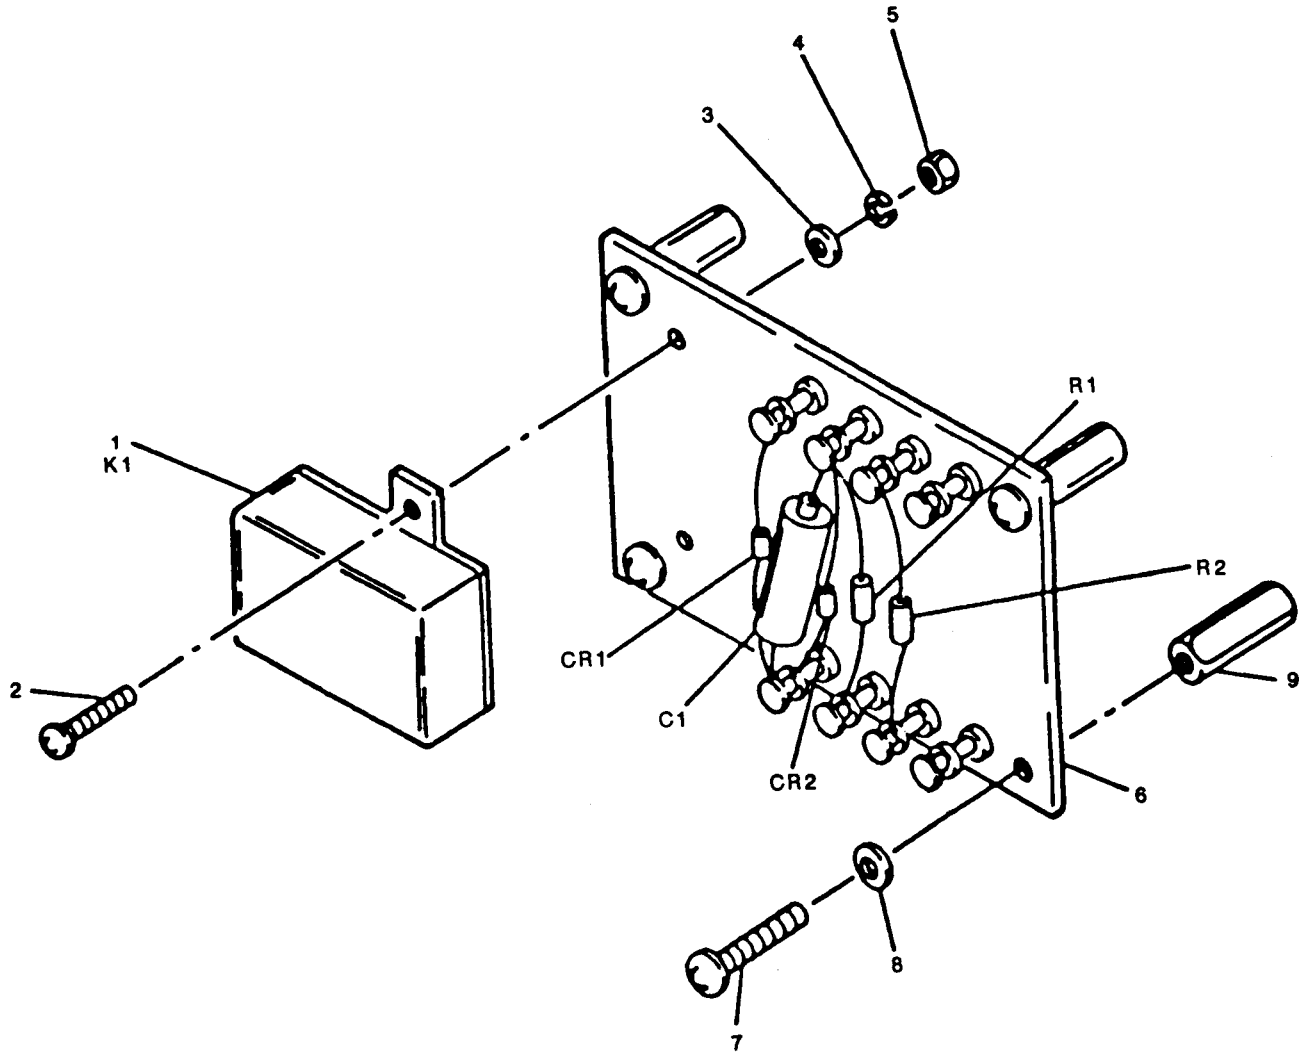

Figure 5-17. Terminal Board TB2 Component Locations
- (2) Tag and remove the wires from the terminal board (29) component to be replaced.
- (3) Replace the defective component.
- (4) Attach the wires to the terminal board (29) component as tagged.
- (5) Replace top cover in accordance with paragraph 5-12a.
- o. Terminal Board TB2 Removal and Replacement. Refer to figure 5-17 unless otherwise indicated and proceed as follows:
- (2) Refer to figure 5-17. Support the terminal board (6) while removing the four screws (7) and flat washers (8) that attach the terminal board to the spacers (9).
- (3) Tag and remove wires from terminal board components.
- (4) Remove the terminal board (6) from the chassis.
- (5) To replace TB2, solder all wires to components as tagged during removal. Aline the terminal board (6) and spacers (9) with the mounting holes and secure to the spacers with four screws (7) and flat washers (8).
(7) Replace top cover in accordance with paragraph 5-12a.
p. Terminal Board TB2 Component Replacement. Refer to figure 5-17 unless otherwise indicated and proceed as follows:
- (3) Remove and replace defective component.
- (4) Replace TB2 in accordance with paragraph 5-12o.
- (6) Refer to section V of this chapter.
q. Relay TB2K1 Removal and Replacement. Refer to figure 5-13 and figure 5-17, and proceed as follows:
- (1) Remove top cover (2) in accordance with paragraph 5-12a.
- (2) Remove terminal board TB2 (30) from side of chassis in accordance with paragraph 5-12o. Do not remove wiring from terminal board.
- (3) Remove heatshrink tubing, then tag and remove wires connected to TB2K1.
- (5) To replace relay K1, secure K1 to TB2 with two screws (2), flat washers (3), lock washers (4), and nuts (figure 5-17, items 2 thru 5).
- (6) Place length of 0.125 ID black heatshrink tubing (item 12, App. D) over each wire, then solder wires to relay terminals as tagged during removal. Slide heatshrink tubing over connection and shrink.
- (7) Replace terminal board TB2 to side of chassis in accordance with paragraph 5-12o, and top cover in accordance with paragraph 5-12a.
- (8) Refer to section V of this chapter.